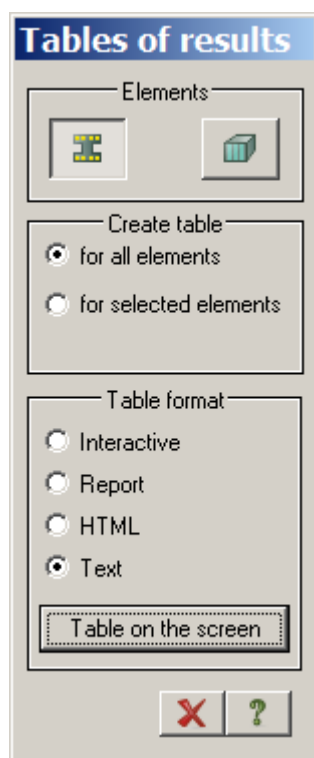

Figure 21.23 **Tables of analysis results** dialog box
- ⇒ In the **Tables of analysis results** dialog box (see Fig.21.23), the following data is mentioned by default: **Reinforcement in bars** option in the **Elements** area, option **For all elements** in the **Create table** area and **Text** option in the **Table format** area.